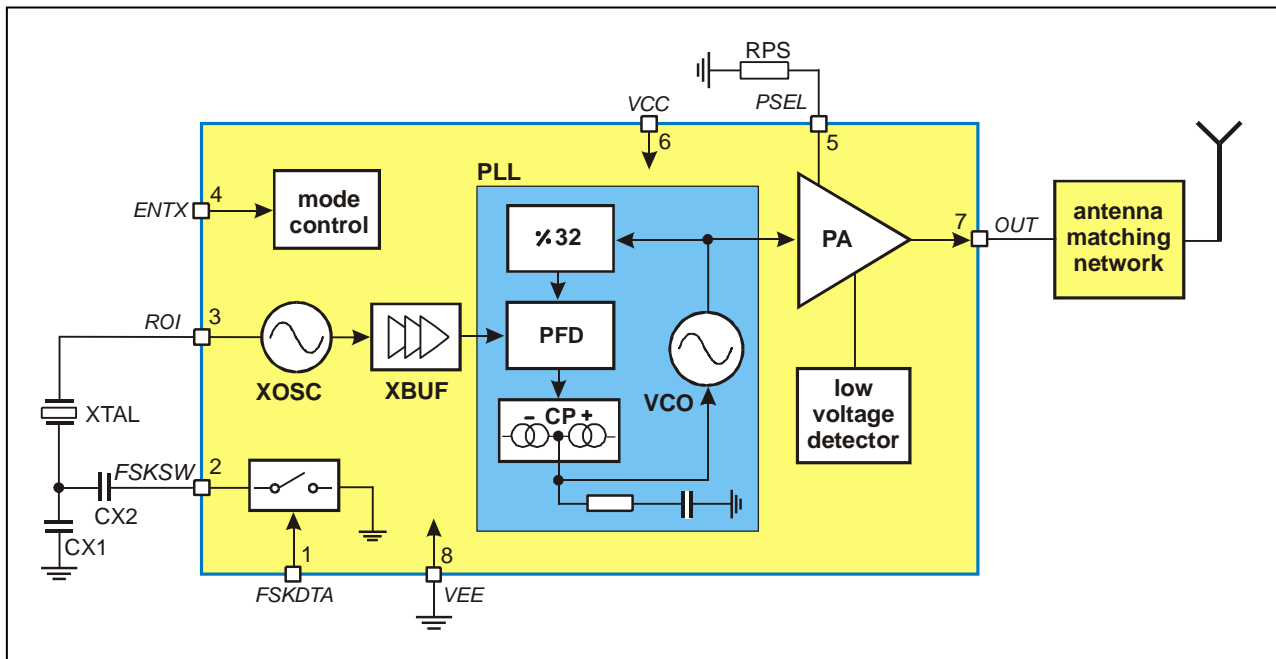

Fig. 1: Block diagram with external components
As depicted in Fig.1, the TH72031 transmitter consists of a fully integrated voltage-controlled oscillator (VCO), a divide-by-32 divider (div32), a phase-frequency detector (PFD) and a charge pump (CP). An internal loop filter determines the dynamic behavior of the PLL and suppresses reference spurious signals. A Colpitts crystal oscillator (XOSC) is used as the reference oscillator of a phase-locked loop (PLL) synthesizer. The VCO's output signal feeds the power amplifier (PA). The RF signal power P_{out} can be adjusted in four steps from $P_{out} = -12$ dBm to +9.5 dBm, either by changing the value of resistor RPS or by varying the voltage V_{PS} at pin PSEL. The open-collector output (OUT) can be used either to directly drive a loop antenna or to be matched to a 50ohm load. Bandgap biasing ensures stable operation of the IC at a power supply range of 1.95 V to 5.5 V.